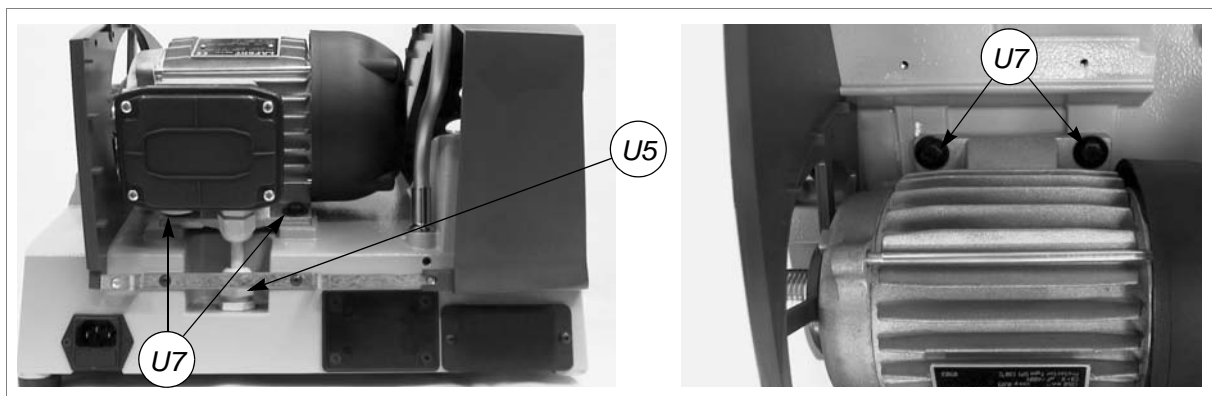

Fig. 41
- 8) Loosen the fairlead (U5) (fig.41).